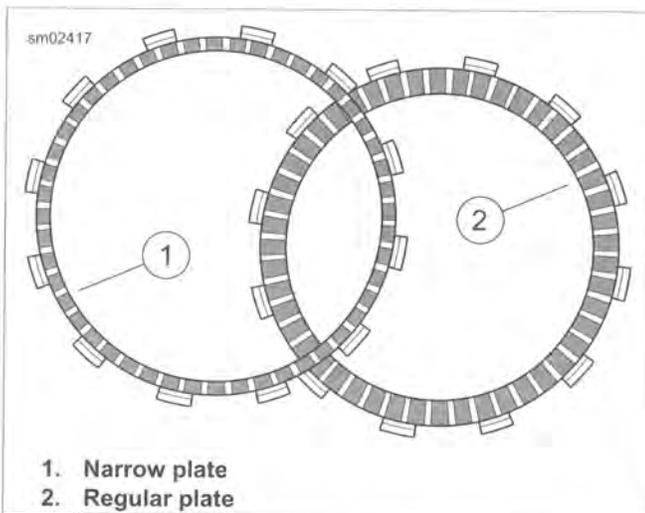

Figure 5-30. Friction Plates
1. See Figure 5-30. Install the narrow friction plate on the clutch hub.